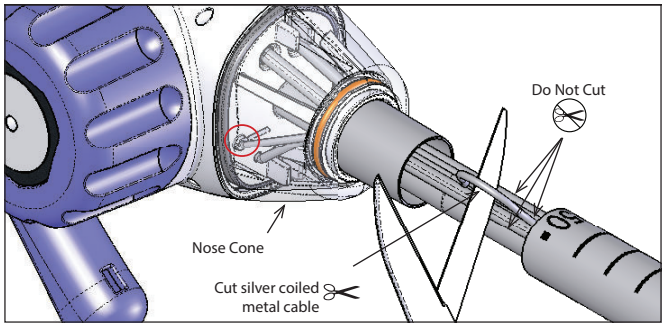

Figure 9
11. Using scissors cut the gray outer tube longitudinally along the shaft of the device to the 50cm tube marking (Figure 9) and peel back the tube to expose the device cabling.
12. Identify 4 internal device cables (Figure 9):